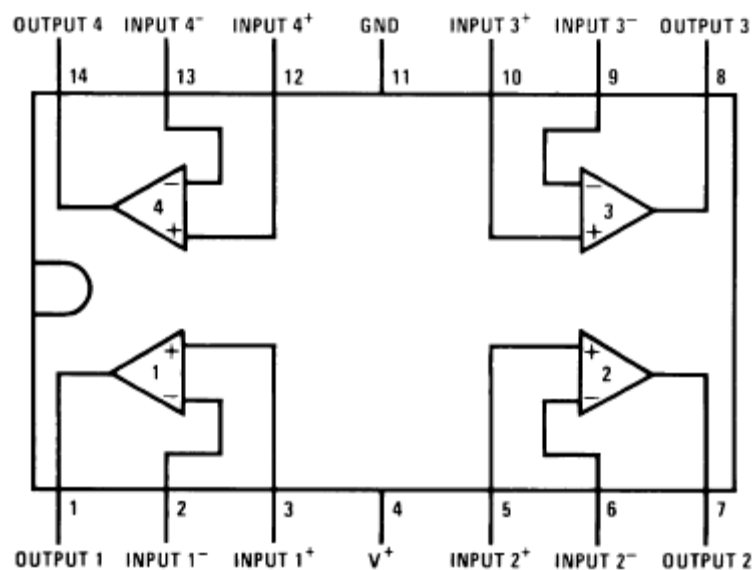
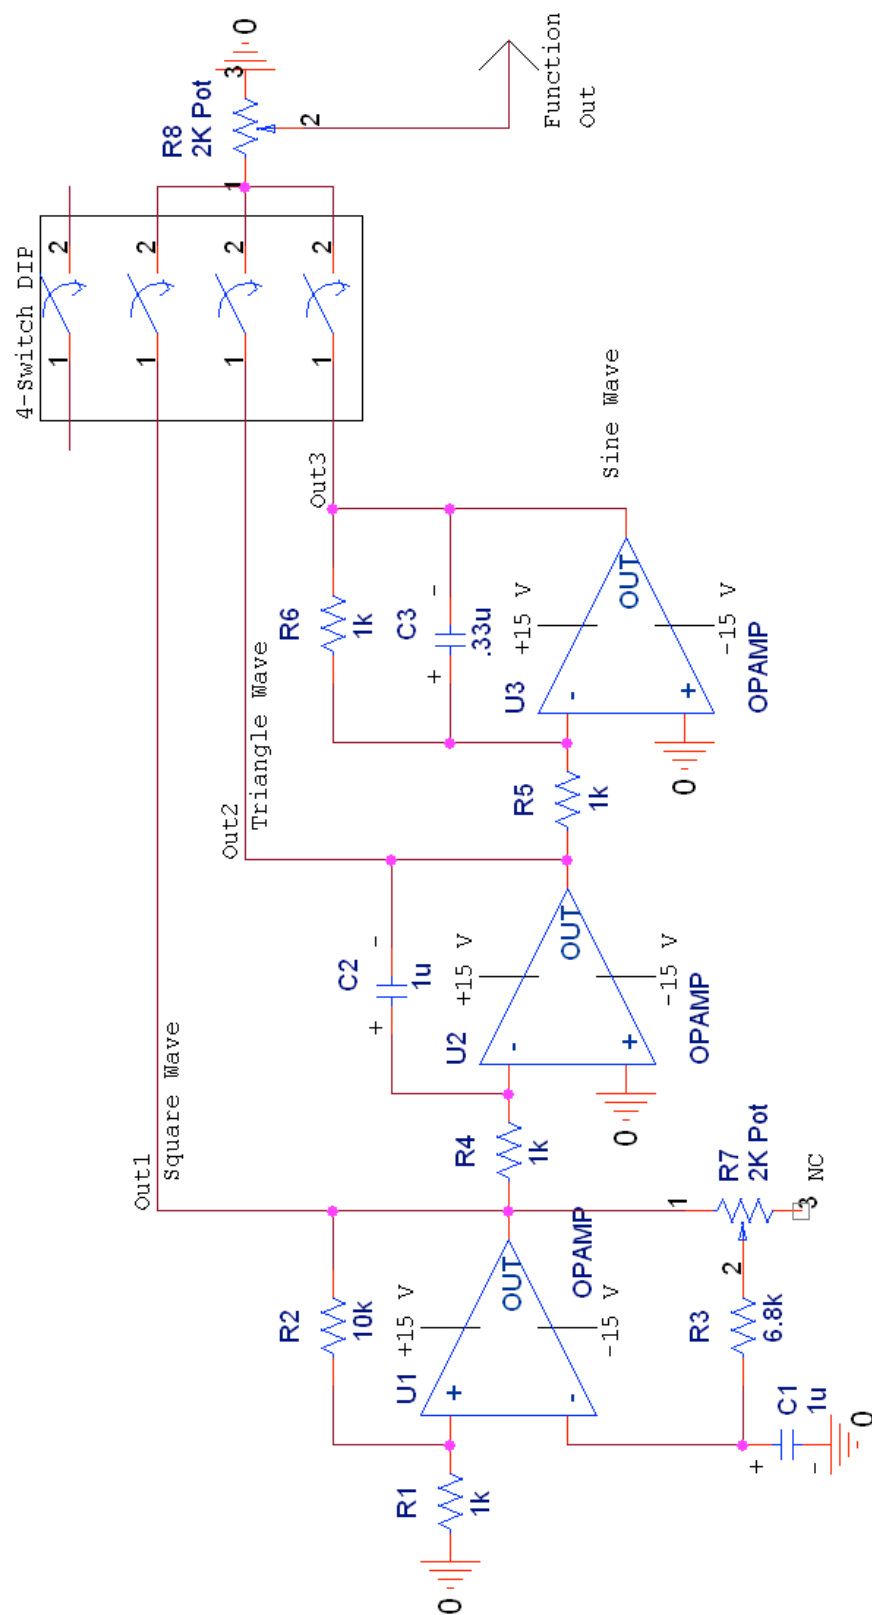

Figure 7: Pin Layout of the LM324 Op-Amp
Figure 8: Circuit Diagram of the Function Generator
4. Using the pin layout of the LM324 chip on the last page of this lab description, draw the necessary connections to each of the pins so that it resembles the schematic in Figure 8. Do not use op amp 4 from the LM324 chip. Instead, use op amp 1 from the last page for the U1 op amp in Figure 8, op amp 2 for the U2 stage, and op amp 3 for the U3 stage. Bring this drawing to lab and use it for the in lab connections.
1. Using one 324 op-amp chip (shown in Figure 7), wire the three stage op-amp circuit shown in Figure 8. The first op-amp stage generates a square wave. The second op-amp stage integrates the square wave to produce a triangle wave. The final op-amp stage is a low-pass filter, removing the higher frequency components of the triangle wave so that it closely resembles a sine wave with the same fundamental frequency. It is recommend you wire one stage at a time (starting with the square wave) and ensure the proper functionality of that stage before wiring subsequent stages.
1. Connect an oscilloscope probe to the point labeled “Function Out” in Figure 8. Select the output from the first op-amp (the square wave). You will now analyze the duty cycle of this square wave. Make sure that R8, the amplitude knob, is adjusted such that there is no resistance between the DIP-switch output and the oscilloscope probe (i.e. such that the amplitude of the output is at a maximum). Turn the knob on the potentiometer R7 all the way clockwise.
3. The potentiometer labeled R7 in Figure 8 controls the frequency of the square wave. Because the triangle and sine waves will have the same frequency as the square wave, this potentiometer is the frequency knob for the function generator. Fill in the following table for the maximum and minimum values of the resistance of the potentiometer, R7, between pins 1 and 2.